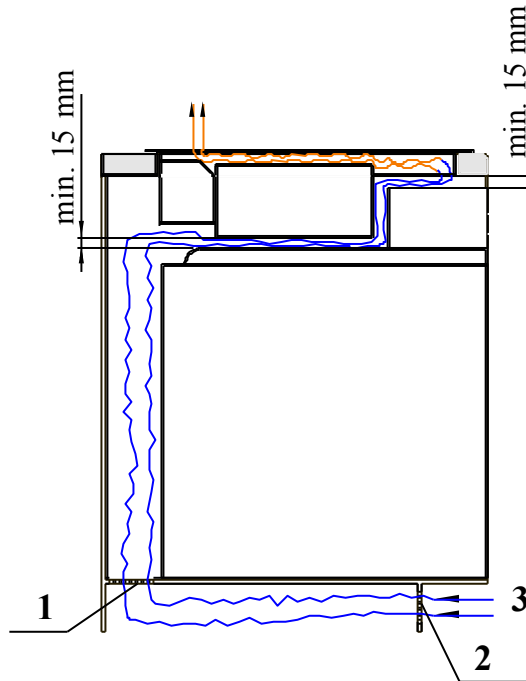

Fig. 5. Hob with oven arrangement
- If the kitchen cabinet has a back wall, it is absolutely necessary to cut out ventilation openings in it, as shown **on the drawing fig. 5**,